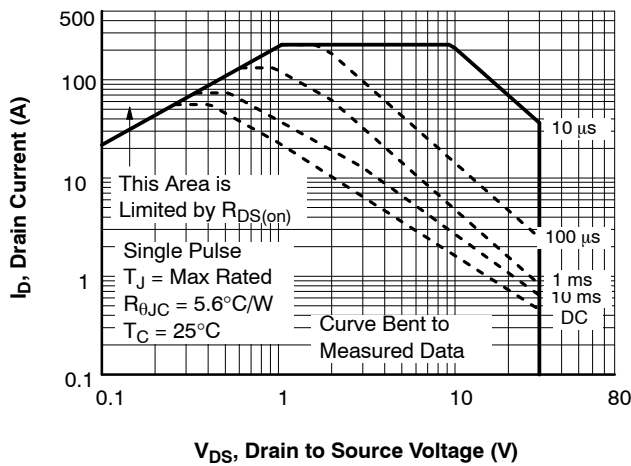
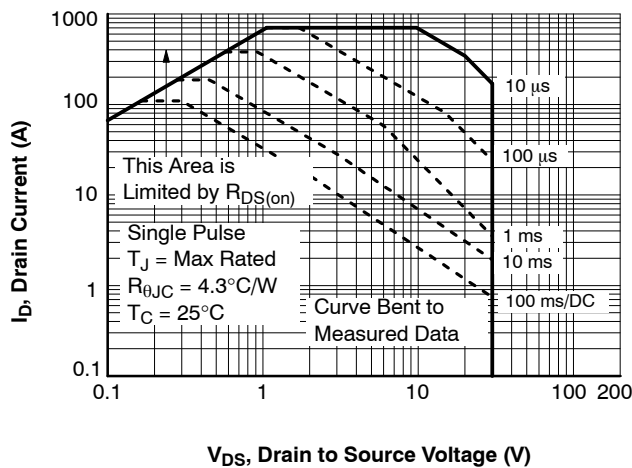

Figure 11. Forward Bias Safe Operating Area
Figure 24. Forward Bias Safe Operating Area
4. Pulsed Id refer to Figure 11 and Figure 24 SOA graphs for more details.